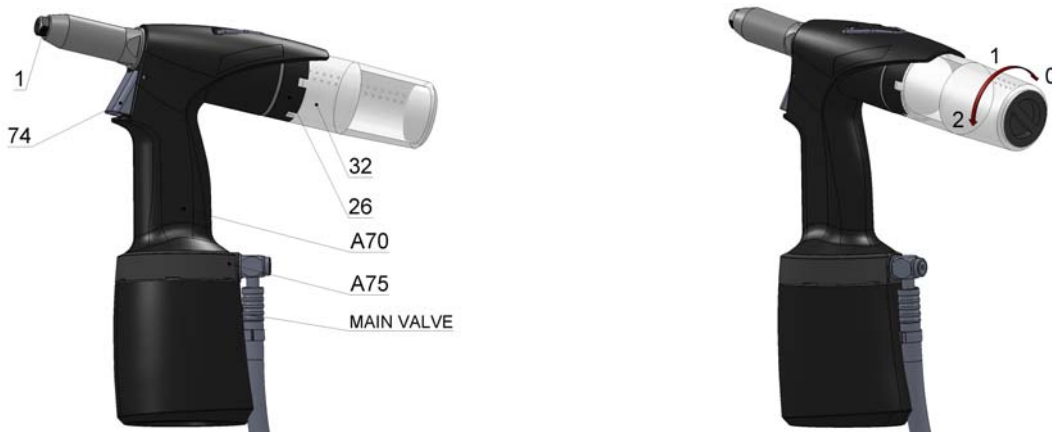

Fig. 1
The manufacturer equipped the tool with a nose-piece /fig.1 – pos.1/ for a rivet Ø 6.4. Riveting with blind rivets of different diameters (further on referred to as BR) requires use of appropriate nose-pieces that are located in the accessories casing of the tool.
Replacement of nose-pieces: Connect the tool to the source of compressed air, depress the trigger and screw out the nose-piece /fig.1 – pos.1/ with a spanner no. 12. Screw on a new nose-piece /acc. to the chart/ and tighten it. Now you can release the trigger of the tool.
The tool is equipped with revolving air supply /fig.1 – pos.A75/ which enables manipulation with air supply before as well as during tool operation, air hose does not obstruct riveting in any position.
The tool is equipped with multifunction trigger /fig.1 - pos.74/ which enables following: